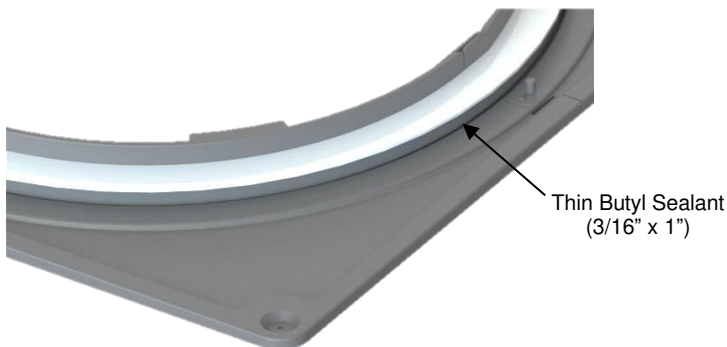

Figure 8
- 2.) With the backing tape upward, apply approximately 77" of thin butyl (3/16" x 1") around the perimeter of the base flange where the riser pipe will meet the flange (Fig. 8). Overlap and knead the ends of the butyl together to ensure a water-tight seal.